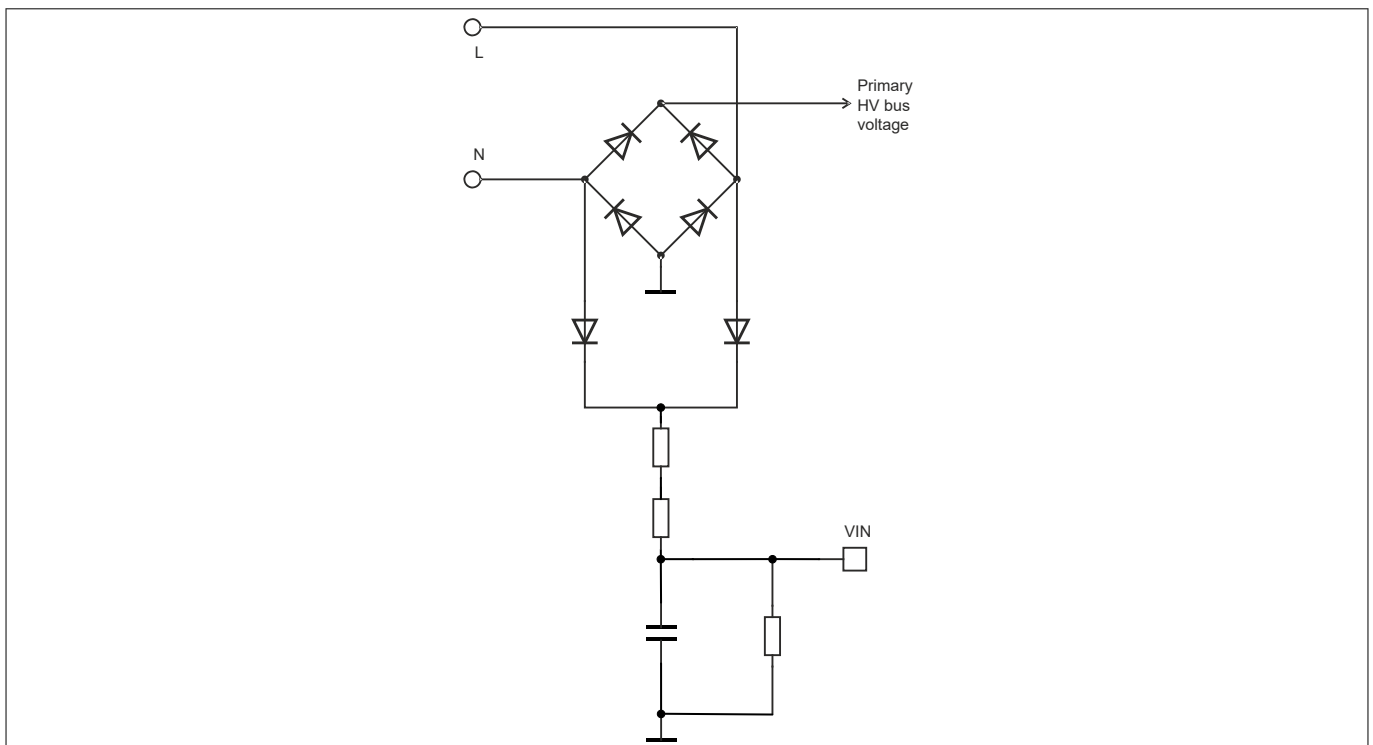
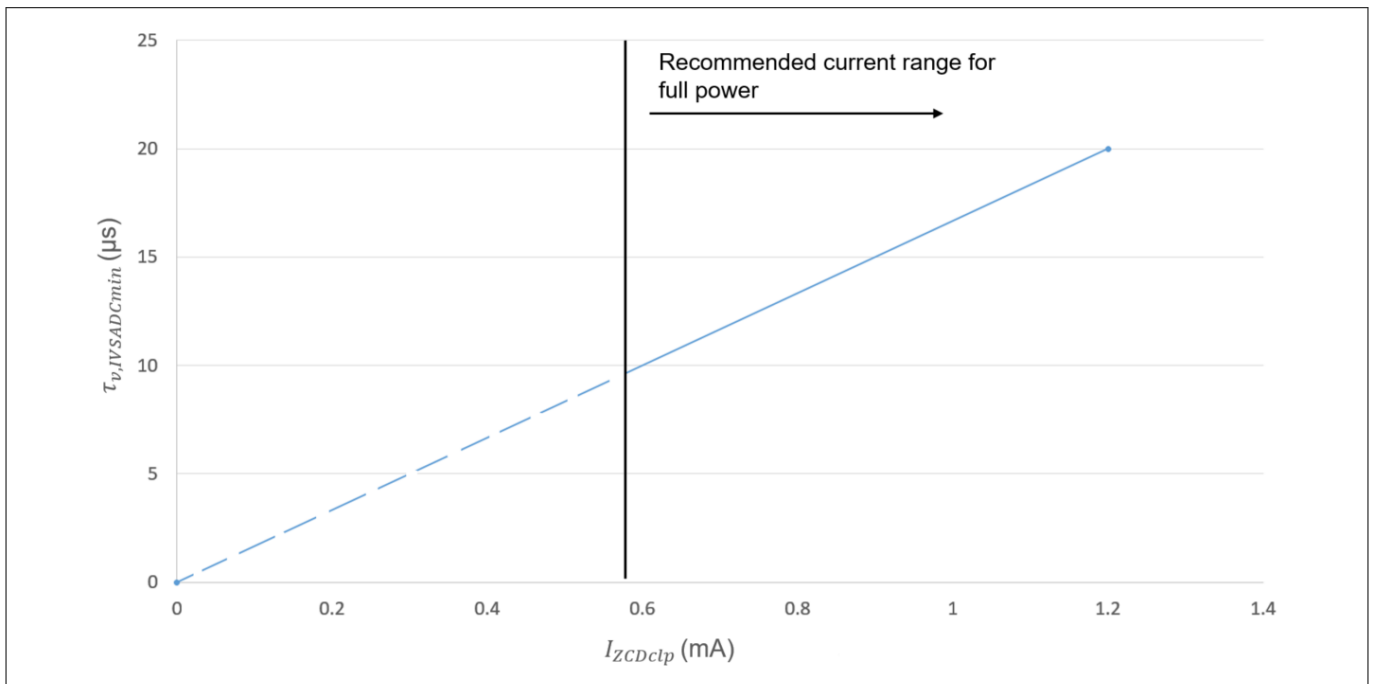
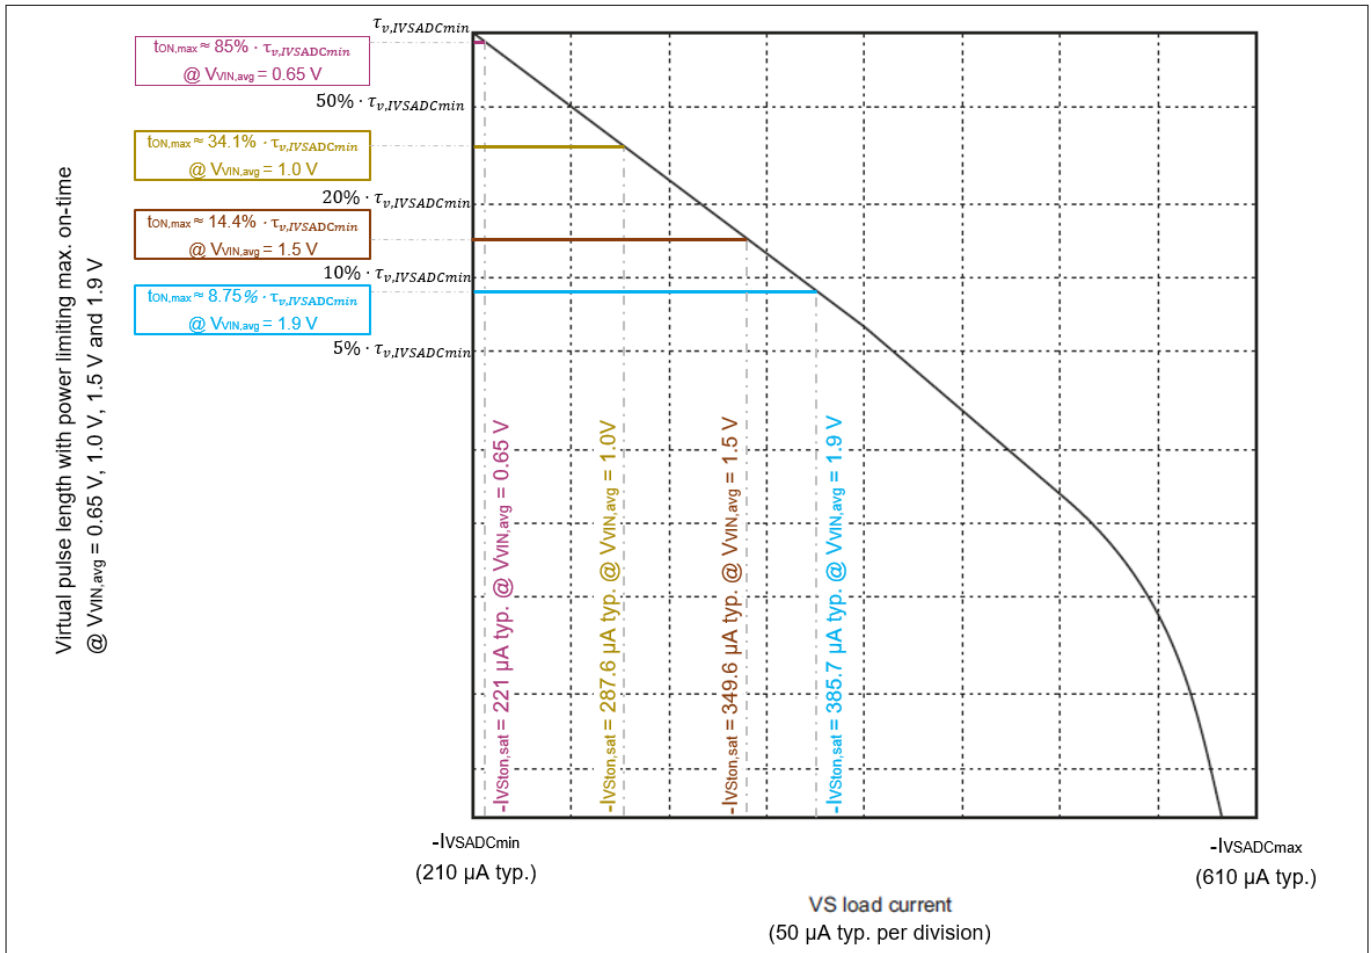

Figure 7 V_{IN} pin circuit
Figure 15 Virtual pulse length at $I_{VSADCmin}$, $\tau_{v,IVSADCmin}$ versus ZCD peak to peak settled clamping current, I_{ZCDclp}
Figure 16 Virtual pulse length mapping with power limiting maximum on-time effect
1. Based on $I_{ZCDclp} = 1.2 \text{ mA}$, obtain $\tau_{v,IVSADCmin} = 20 \mu\text{s}$ from Figure 15.
For $t_{ON,max}$ estimation, it is important to note that $\tau_{v,IVSADCmin}$ changes with different $V_{VIN,avg}$ level, when the input voltage detection circuit in Figure 7 is applied. This is because $\tau_{v,IVSADCmin}$ is scaled exponential depending on I_{ZCDclp} in Figure 15, while I_{ZCDclp} is dependent on the input voltage, as explained in ZCD pin signal sensing.
Figure 16 shows the virtual pulse length with the power limiting maximum on-time effect, when $V_{VIN,avg}$ is 0.65 V, 1.0 V, 1.5 V and 1.9 V, respectively.
When $V_{VIN,avg}$ is at the brownin level ($V_{BI} = 0.65$ V typ.), the power limitation is enabled with $t_{ON,max} = 85\%$ of $\tau_{v,IVSADcmin}$, as shown in Figure 16. For example, if the desired $t_{ON,max}$ at brownin level is 17 µs typ., it is necessary to have $\tau_{v,IVSADcmin} = 17 \mu\text{s} / 85\% = 20 \mu\text{s}$. And, according to Figure 15, $\tau_{v,IVSADcmin} = 20 \mu\text{s}$ is obtained when $I_{ZCDclp} = 1.2$ mA is applied. As a result, to achieve $t_{ON,max} = 17 \mu\text{s}$ typ. at brownin level, R_{ZCD} should be dimensioned to produce $I_{ZCDclp} = 1.2$ mA typ. at brownin level.